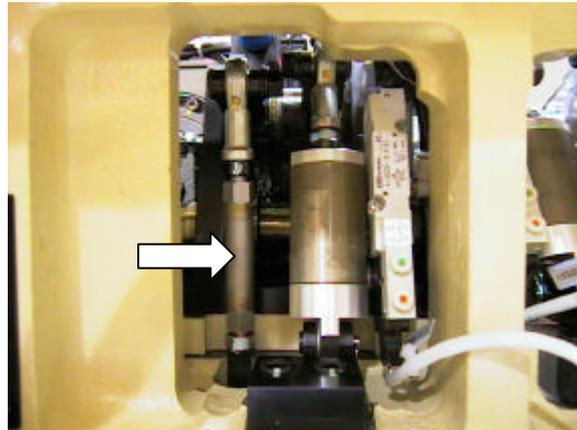

Figure 5
3. Engage and align the 3rd station clutch (1) with the low shaft, by adjusting the position of bracket (2):
6. Set the length of the third station rod, (located in the cam box at the rear of the machine), to minimum. (See figure 5 below)